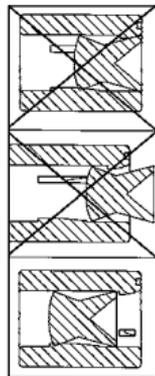

Fig.13
- through the oval opening successively load any empty container in the magazine with only one pellet or BB in each container up to 28 pellets all together in any sequence and alternation (for best firing results it's recommended to load magazine with the same type of pellets); in doing so strictly observe correct positioning of pellets in the containers, as shown in Fig.13;